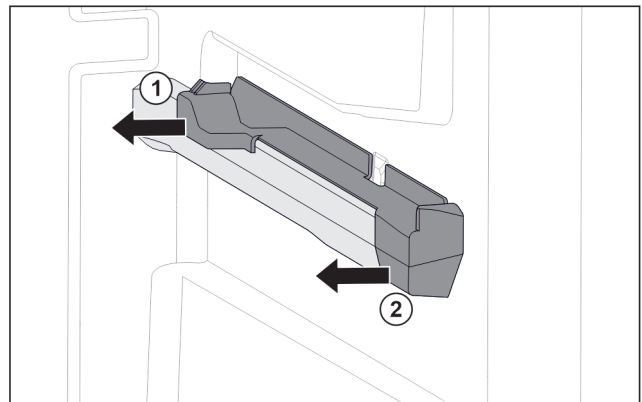

Fig. 117 Attachment on the right molded rib
- Pull off attachment at the back sideways. Fig. 117 (1)
- Pull off attachment at the front sideways. Fig. 117 (2)